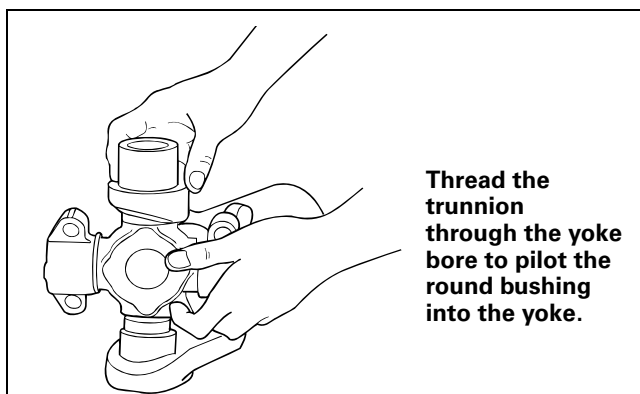

Figure 4.38
7. Position the second bushing onto the trunnion by threading the cross through the yoke bore as shown. Figure 4.38.